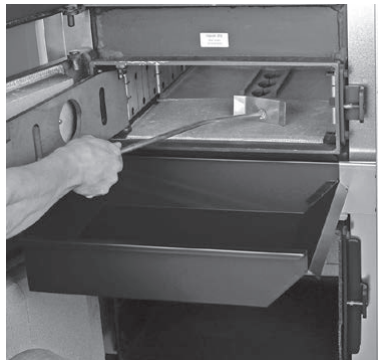

Fig. 30 Attaching the ash pan, removing ash
- Attach ash pan at height of lighting door (central door) in the intended hook-in plate – Fig. 30. Open lighting door and vertical grate and sweep most of the remaining ash from the filling chamber into the ash pan.